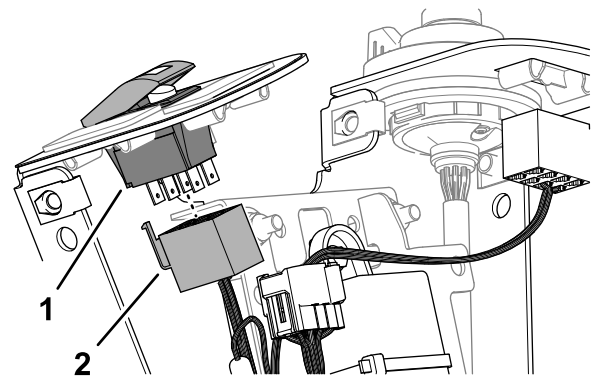

Figure 34
- Plug the 8-socket connector of the control harness labeled HAZARD SWITCH into the 8-pin connector of the rocker switch (Figure 34).